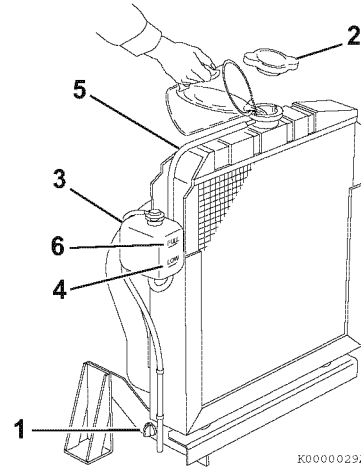
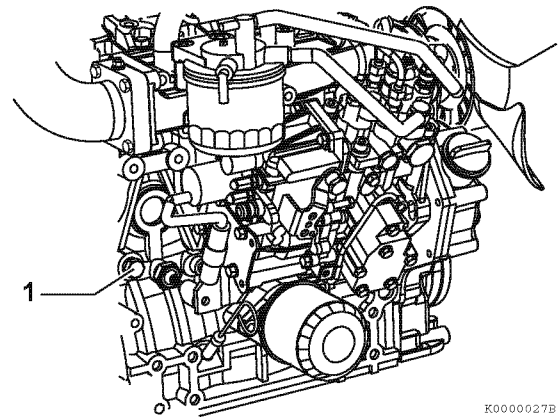
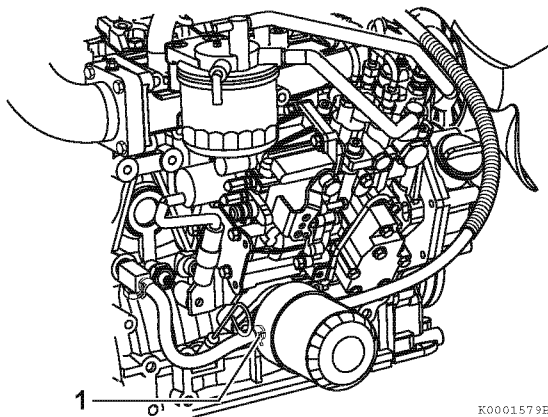

Figure 5
Figure 6
Figure 7
1. Check to be sure the radiator drain plug is installed and tightened or the drain cock (1, **Figure 5**) is closed. Also make sure the coolant drain plug (1, **Figure 6**) in the cylinder block is closed and the coolant hoses (1, **Figure 7**) are installed at the oil cooler.
2. Remove the radiator cap (2, **Figure 5**) by turning it counterclockwise about 1/3 of a turn.
4. Reinstall the radiator cap (2, **Figure 5**). Align the tabs on the back side of the radiator cap with the notches on the engine coolant filler port. Press down and turn the cap clockwise about 1/3 of a turn.
5. Remove the cap of the reserve tank (3, **Figure 5**), and fill it to the LOW (COLD) mark (4, **Figure 5**) with engine coolant. Reinstall the cap.
6. Check the hose (5, **Figure 5**) that connects the reserve tank (3, **Figure 5**) to the radiator. Be sure it is securely connected and there are no cracks or damage. If the hose is damaged, engine coolant will leak out instead of going into the reserve tank.
7. Run the engine until it reaches operating temperature. Check the level of engine coolant in the reserve tank. When the engine is running and the engine coolant is at normal temperature, the coolant level in the reserve tank should be at or near the FULL (HOT) mark (6, **Figure 5**). If the coolant is not at the FULL (HOT) mark, add coolant to the reserve tank to bring the coolant level to the FULL (HOT) mark.
1. Check the level of engine coolant in the reserve tank. When the engine is cold, the coolant level in the tank should be at or slightly above the LOW (COLD) mark (4, **Figure 5**) on the coolant reserve tank.
If the coolant level is at the FULL (HOT) mark (6, **Figure 5**) when the engine is cold, the coolant will expand when it becomes hot and possibly spray out of the overflow hose.